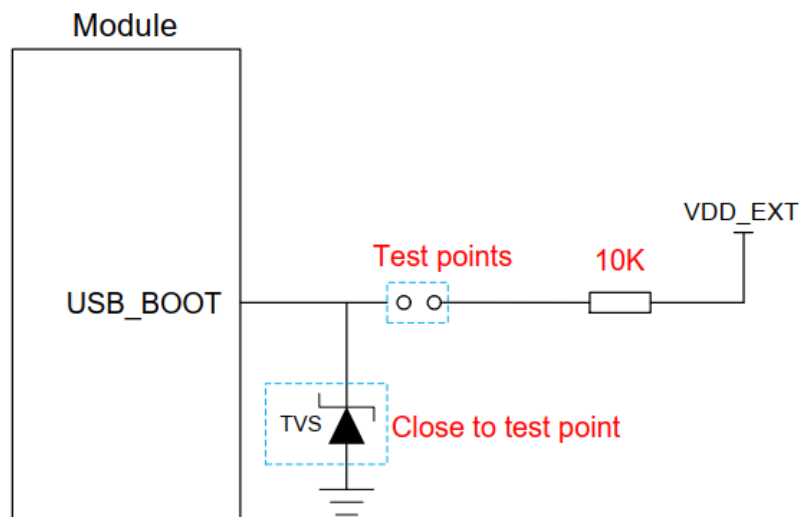

Figure 10 : Reference Design of USB_BOOT Interface
*When using MCU to control the module entering emergency download mode, follow the above timing. Connecting the test points as shown in **Figure 10** can manually force the module to enter download mode.*